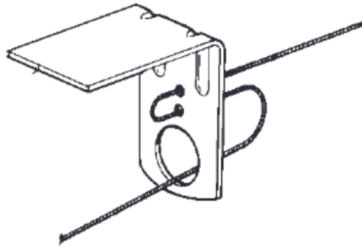
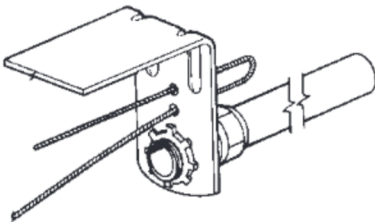

FIGURE 18
FIGURE 19
5. Feed the wire rope through the terminal detector bracket as shown in Figure 18 or as shown in Figure 19 if the terminal detector is mounted within a duct or header opening, and install the stop sleeve approximately 2 to 3 in. (5 to 8 cm) from the end of the wire rope. See Figure 20. Use the National Telephone Supply Company Nicopress Sleeve Tool (Stock No. 51-C-887) or equal to properly crimp the stop sleeve.